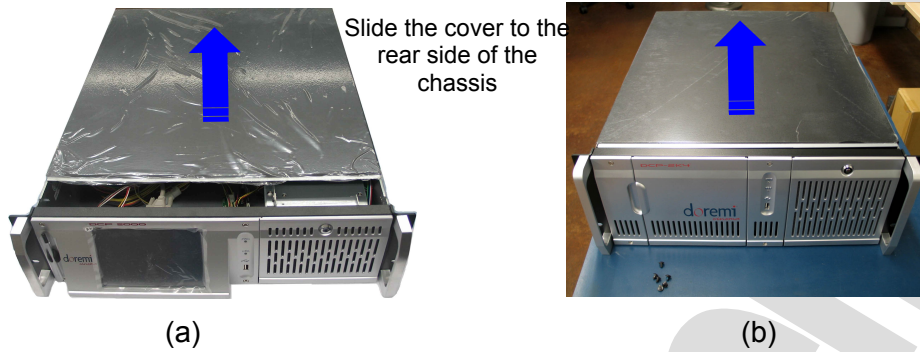

Figure 4: Lid Removal – (a) DCP-2000, (b) DCP-2K4
- Slide the lid from the front side to the rear side of the unit and lift it in order to remove it from the chassis, as shown on Figure 4: